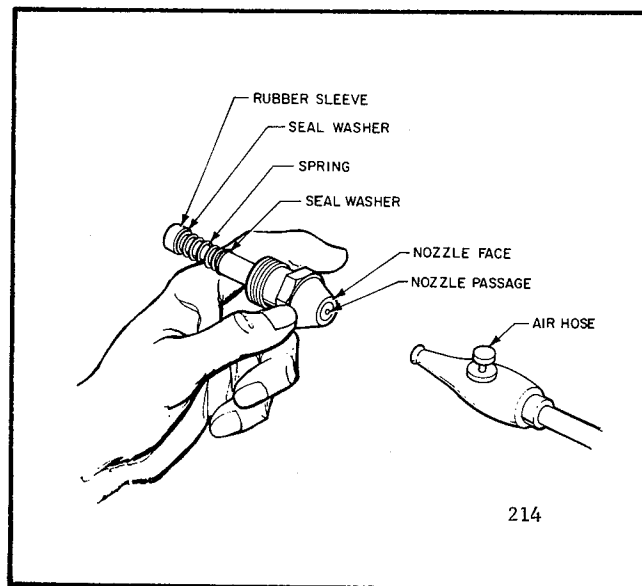

Figure 8. Blowing Out Nozzle With Compressed Air
4. Soak the remaining parts of the burner head assembly for one hour in non-flammable liquid cleaning agent. (DO NOT use kerosene or fuel oil). Blow dry through fittings in rear of burner. Blow the nozzle dry through the face (OUTLET) end ONLY. See Figure 8.